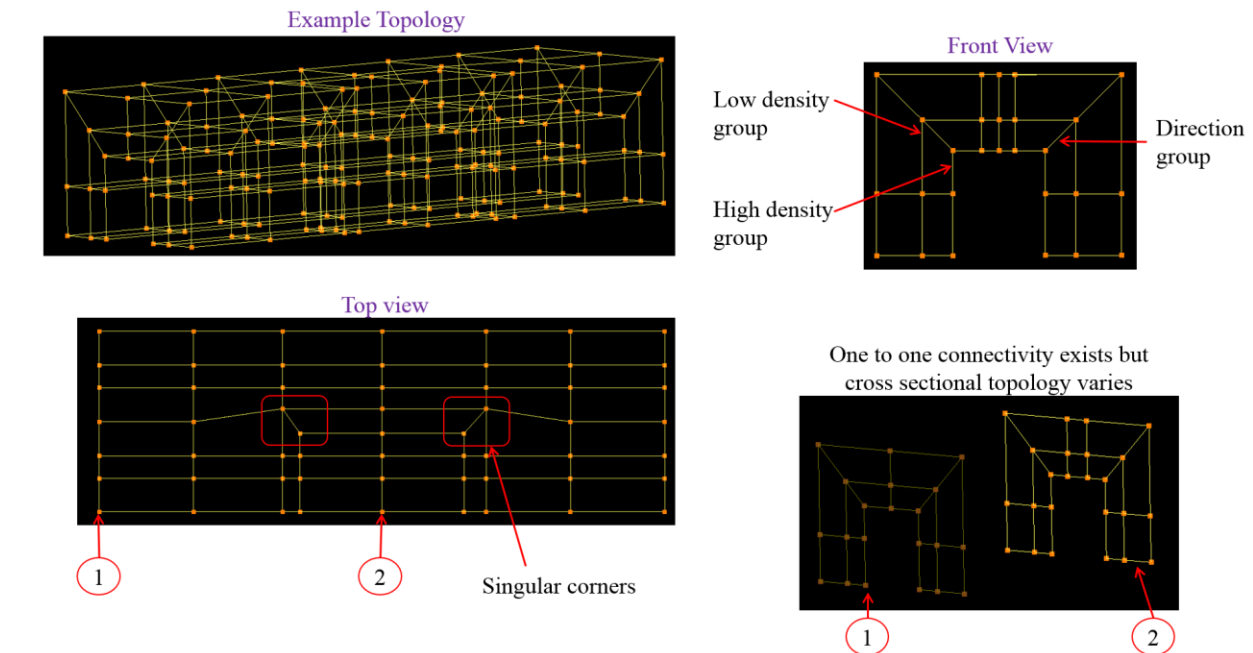

Figure 4.122: Topology structure of high and low density group
4. Topology structure of the high and low density group should be same at every cross-sectional sheet as explained in Figure 4.122.